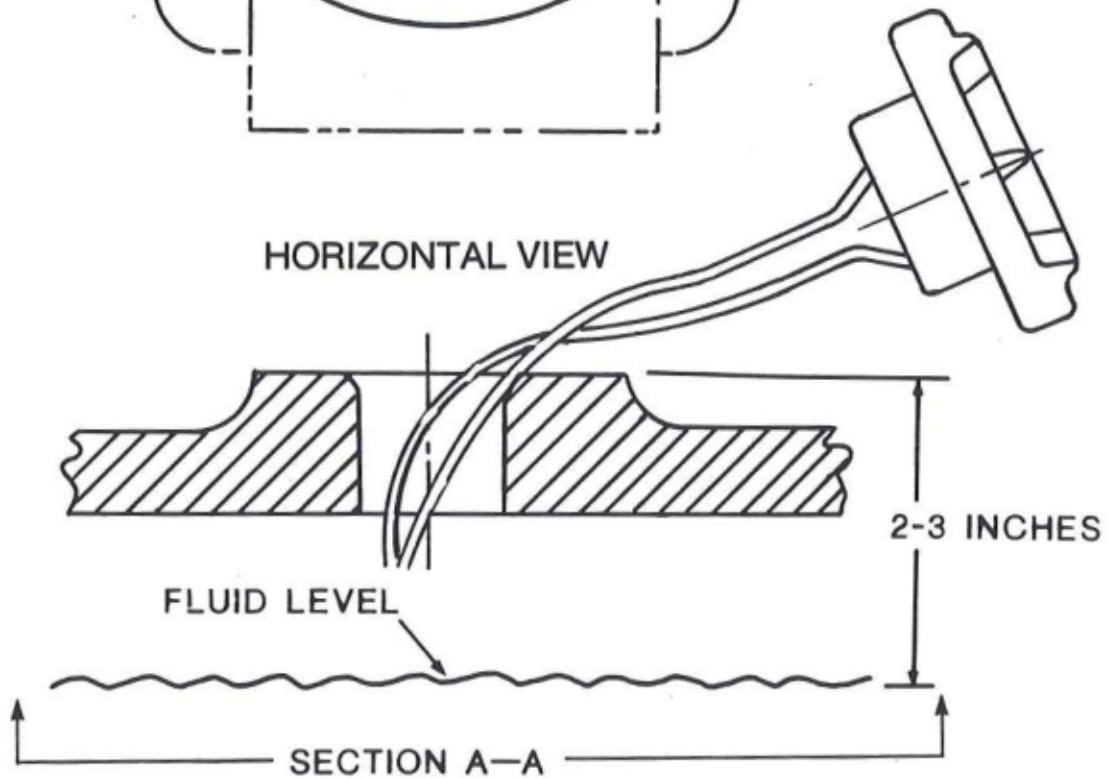

Figure 1-8. Oil Port Access, Horizontal Mounting
- (c). Route the control and power wiring through one of the 3/4" NPT conduit connections, unless it is equipped with an auxiliary switch box, in which case, route the wiring through the 1 1/2 " NPSM conduit connection beneath the switch box (see Figure 1-8 or 1-9).
- 3). Remove the two screws and lift away Terminal Block No. 2 (see Figure 1-8).
- 6). Using a funnel, assuring that you do not spill hydraulic oil onto electrical components, fill the Hydramotor with oil. The oil level should be 2-3 inches from the mounting surface of Terminal Block No. 2 (see Figure 1-8).